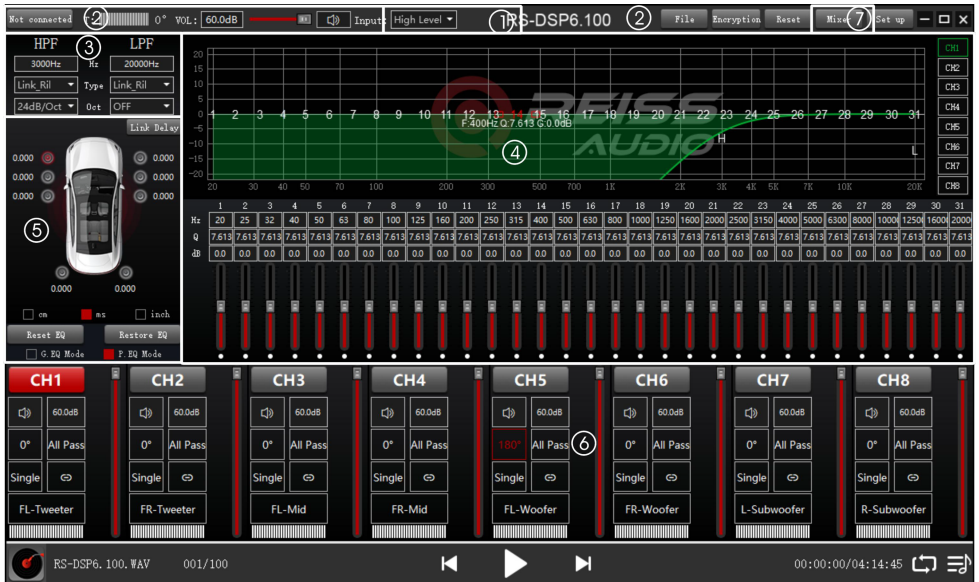
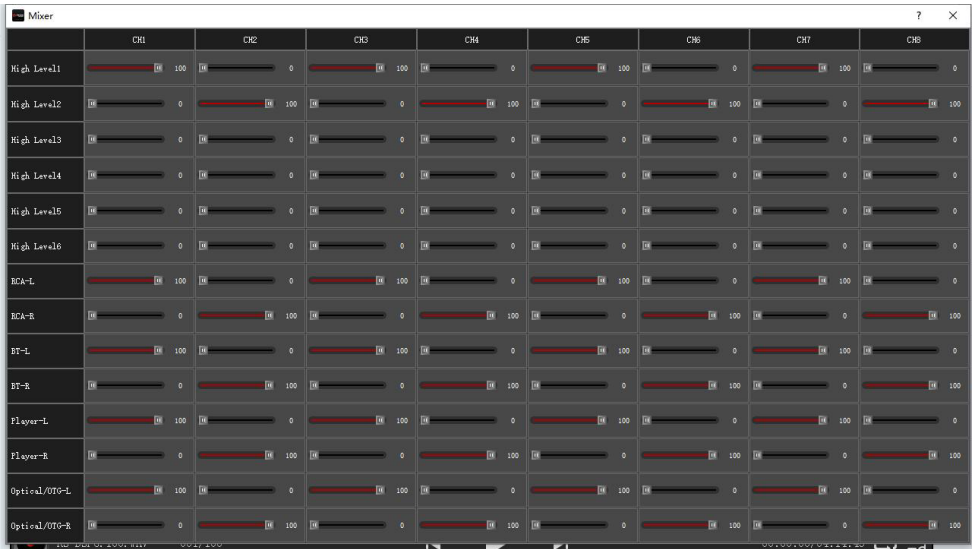

Figure 3.2.2
figure 3.3.14
1. as shown in figure 3.2.2, "1", input signal selection: high level, low level, Bluetooth, Optical, Player, OTG In.
2. as shown in figure 3.2.2 "2", shows the main menu and connection status.
3. as shown in figure 3.2.2 "3", the high-pass and low-pass Settings of the divider.
4. as shown in figure 3.2.2, "4", area is output channel EQ setting.
5. as shown in figure 3.2.2, "5", shows the setting of delay space.
6. as shown in figure 3.2.2, "6", output channel configuration and common parameter adjustment area.
7. as shown in figure 3.2.2, "7", shows the setting of Mixer space.
In the online mode, in Figure 3.2.2 "1", click the appropriate input source, you can switch the audio input signal.
"6" area, click on the corresponding channel number in Figure 3.2.2 (CH1, CH2 CH8), you can switch to the corresponding channel to adjust relevant parameters when changing the channel editing, where there are only 3.2. 2 "3" zone (crossover and equalization parameters) will vary depending on the channel and change the parameter values.
Mixer settings: click "mixer" in the "7" area in Figure 3.2.2, then you can switch to (Figure3.3.14) the relevant parameter settings for the corresponding adjustment.